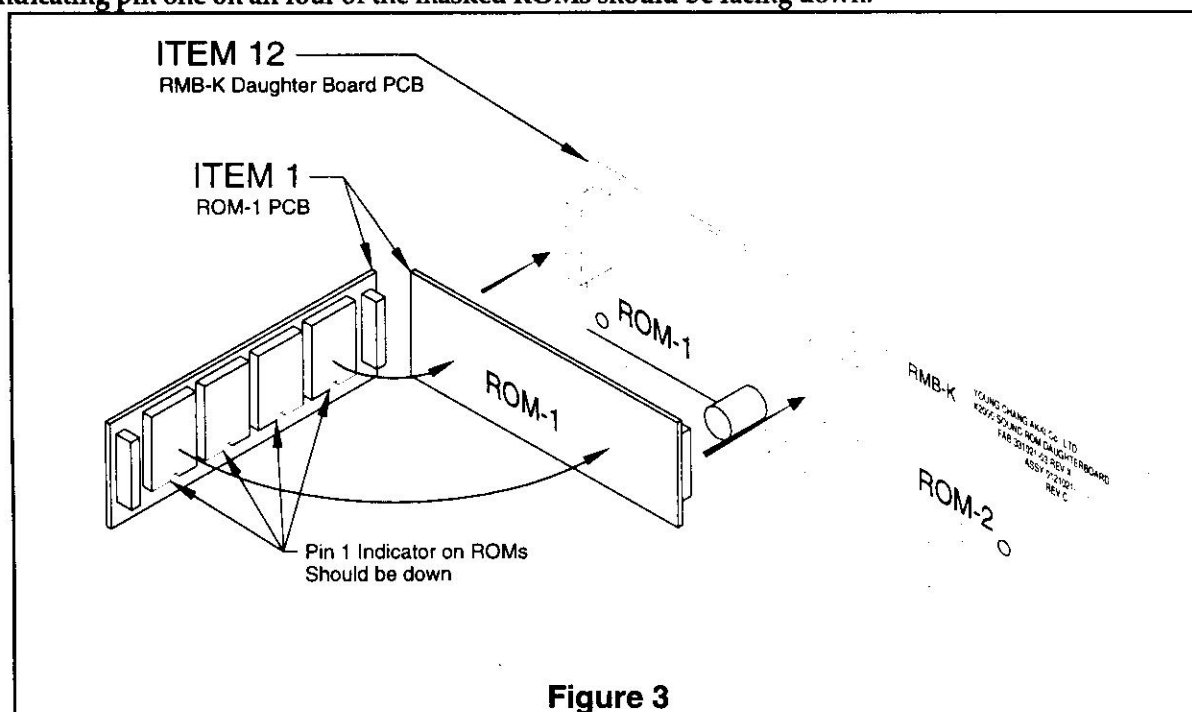

Figure 3
8. See Figure 3. Determine which ROM board is in the kit. The masked ROMs are labeled 1-1, 1-2, 1-3, 1-4 on the ROM-1 board and 2-1, 2-2, 2-3, 2-4 on the ROM-2 board. Note that the RMB-K Sound ROM Daughter board is marked ROM-1 on one end of the board and ROM-2 on the other end. Install Item 1, the ROM-x PCB, onto the appropriate side of the RMB-K Sound ROM Daughter board by pushing the two connectors on both sides of the ROM board simultaneously into the matching two connectors on the RMB-K Daughter board. **The notches indicating pin one on all four of the masked ROMs should be facing down.**
NOTE: The connectors on both the RMB-K Daughter Board and the ROM board are keyed so that they can only be installed into their proper connectors. However, it is possible to install them upside down which may destroy the ROMs. *Be sure to install the ROM board with the notches indicating pin on the ROMs facing down as shown in Figure 3*
11. See Figure 3. Determine which ROM board is in the kit. The masked ROMs are labeled 1-1, 1-2, 1-3, 1-4 on the ROM-1 board and 2-1, 2-2, 2-3, 2-4 on the ROM-2 board. Note that the RMB-K Sound ROM Daughter board is marked ROM-1 on one end of the board and ROM-2 on the other end. Install Item 1, the ROM-x PCB, from the kit onto the appropriate side of the RMB-K Sound ROM Daughter board by pushing the two connectors on both sides of the ROM board simultaneously into the matching two connectors on the RMB-K Daughter board. **The notch indicating pin one on all four of the masked ROMs should be facing down.**
NOTE: The connectors on both the RMB-K Daughter Board and the ROM board are keyed so that they can only be installed into their proper connectors. However, it is possible to install them upside down which may destroy the ROMs. **Be sure to install the ROM board with the notches indicating pin on the ROMs facing down as shown in Figure 3**